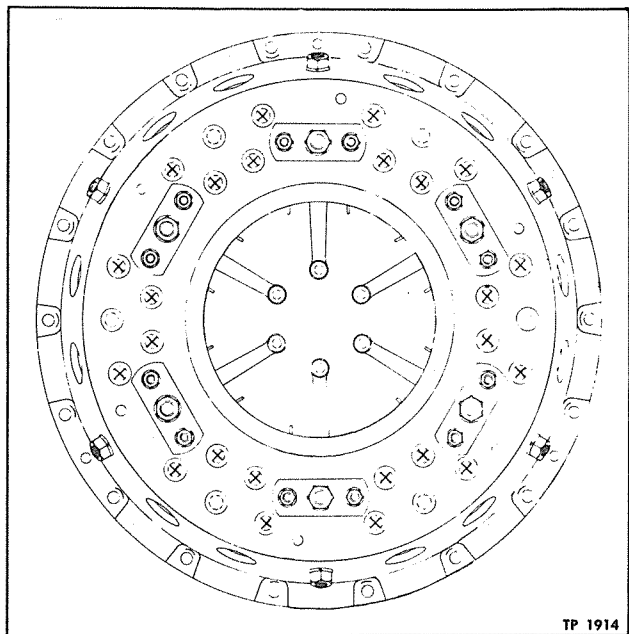

Figure 8—Location of Pressure Springs on Pressure Plate
2. Place pressure plate and levers assembly face downward on bench. If the pressure plate or flywheel plate has been resurfaced, place 1/32 inch shims between insulating washers (35) and spring bosses on pressure plate. Use one shim for each 1/32 inch of material removed during resurfacing operations. Refer to figure 8 for proper position of springs on pressure plate.
3. When insulating washers (35) and springs (34) are in position, set cover (33) over springs (34) fitting each spring guide on cover into corresponding spring. Cover must assume original position in relation to pressure plate. Refer to